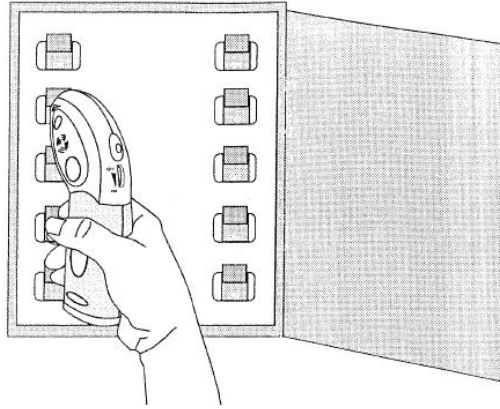

Fig.4
1. Go to the distribution panel with the circuit-breakers and hold the receiver vertically by placing the flat surface of its tapered end directly on the circuit-breaker or the fuse (fig. 4). Slowly move the receiver from the top to the bottom, and from left to right on the row of circuit breakers or fuses. The receiver will emit a sound signal and its green LED will flash when it detects the signal from the emitter.